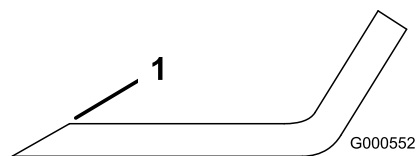
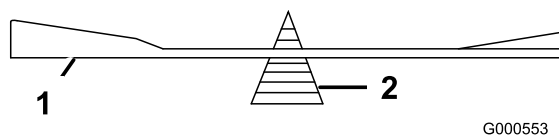

Figure 46
Figure 47
1. Use a file to sharpen the cutting edge at both ends of the blade (Figure 46). Maintain the original angle. The blade retains its balance if the same amount of material is removed from both cutting edges.
2. Check the balance of the blade by putting it on a blade balancer (Figure 47). If the blade stays in a horizontal position, the blade is balanced and can be used. If the blade is not balanced, file some metal off the end of the sail area only (Figure 46). Repeat this procedure until the blade is balanced.